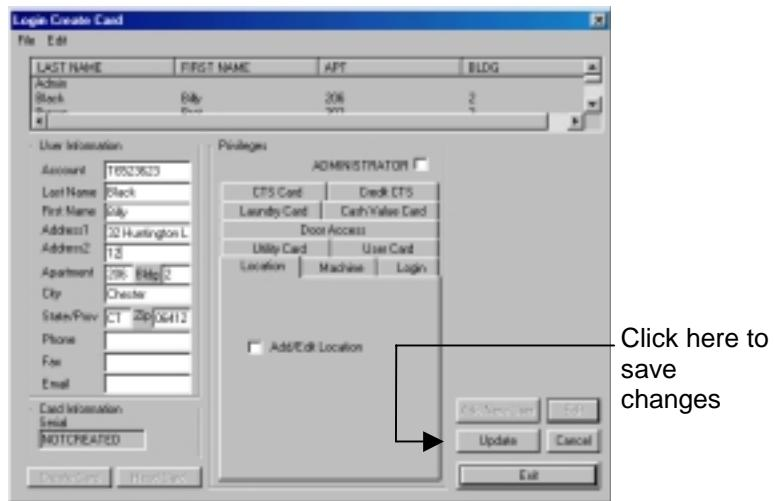

Figure 4.11 Completing Editing Process
5. Click the Update button to save your changes (Figure 4.11).